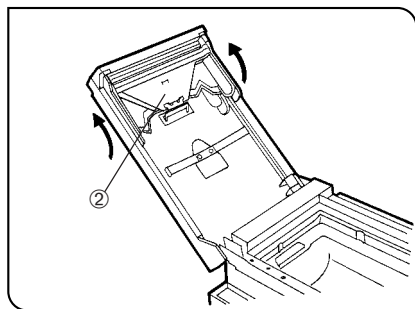

Fig. 26
1. To clean the rollers, lift the roller assembly ② upward in the direction of the arrow and remove. (Fig. 26)